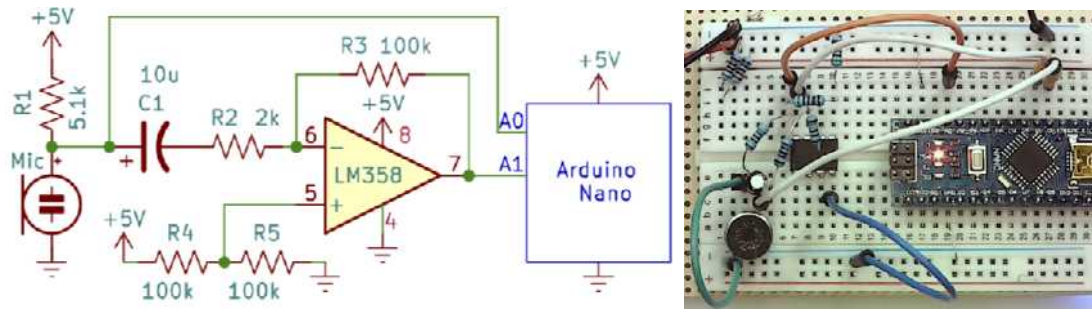
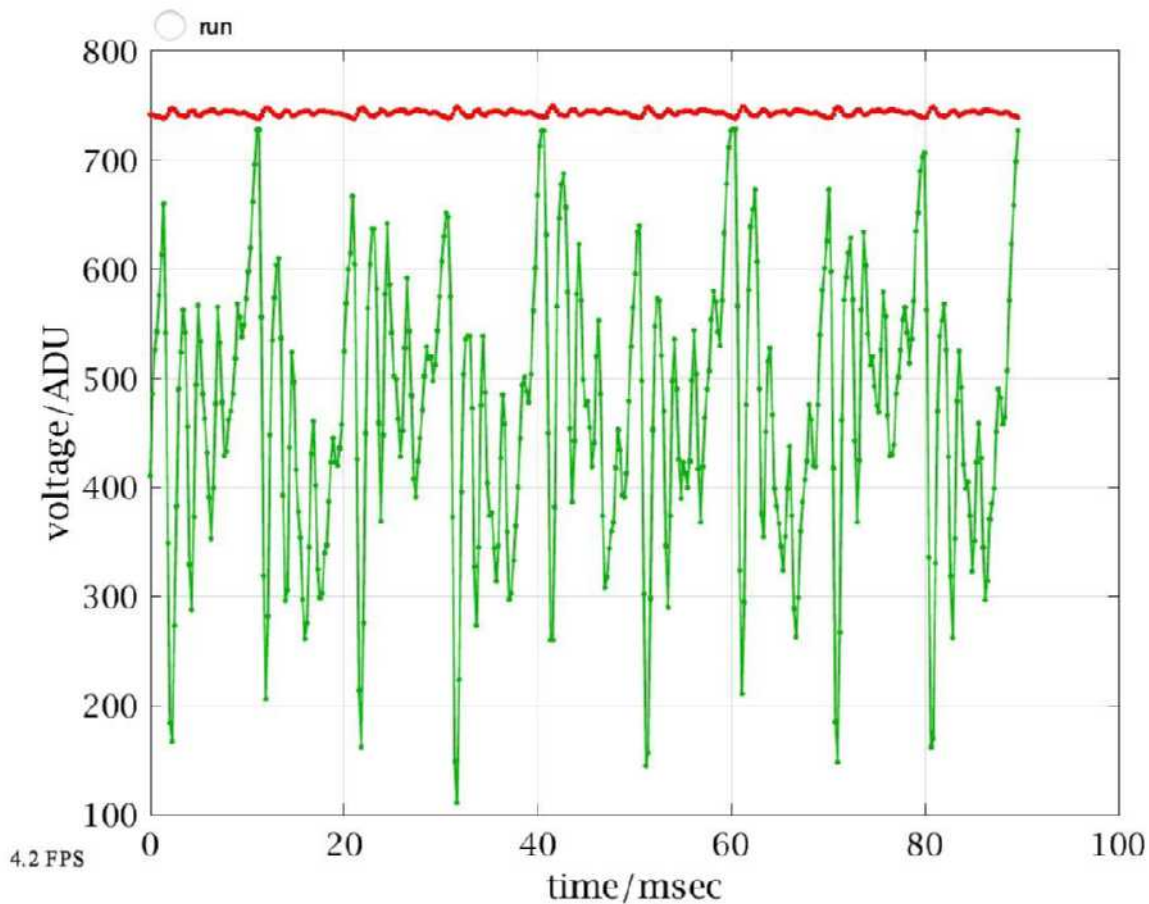
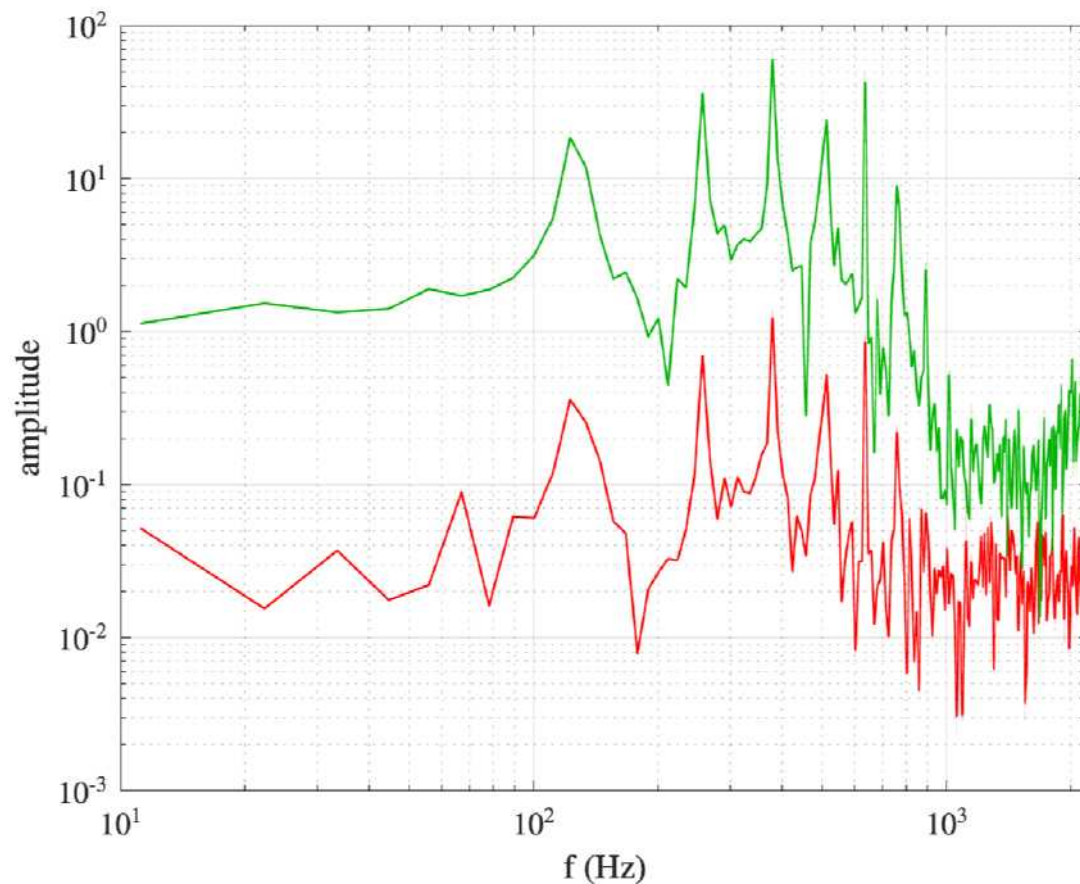

Figure 6. Schematic and photo of amplified microphone. See below for component values.
Figure 7. Typical trace from oscope2 with the circuit in Fig. 6.
Figure 9. Amplitude spectrum (in ADU) of Fig. 7, on log-log axes.
A 20 ADU p-p signal could be amplified by a gain of 50 to fill the dynamic range (DNR) of Arduino's ADC (0-1023). But we'd have to change the DC level to make this work,. If we amplified the signal with its DC value ~ 700 ADU by even 2 times it would saturate the ADC. Likewise, if we removed the DC entirely, then half the signal would be negative and would saturate (or damage) the ADC. Thus we need to *multiply just* the AC signal by 50 and *add* it to a DC offset (called "bias") = $V_{ref}/2$, making the signal symmetrical between 0 and V_{ref} volts = 0-1023 ADU. How to do that? With an op-amp circuit, as in Fig. 6.
An inverting amplifier's gain = - feedback resistance/input resistance = $-R3 / R2$ in Fig. 6. With our limited selection of R's, we can achieve gain = 50 = $100k\Omega / 2k\Omega$. We've already selected $R1 = 5.1k\Omega$. $R4$ and $R5$ are voltage dividers to set the bias voltage at $V_{cc}/2 \sim 2.5V$, so they just need to have equal value. No (significant) current flows into the op amp's + and - inputs, so a high value will reduce wasted power.
Common errors are incorrectly numbering the op amp pins, placing a device in an adjacent column of the breadboard, bad jumper wire, forgetting to ground the microphone, Nano, or op amp, or forget to connect top and bottom ground rows on the breadboard. What other mistakes challenged your debugging skills?? When working, the system should display something like Fig. 7 in response to your (loud) voice:
It's hard to see from Fig. 7 whether the green curve = -50 times the red one (ignoring DC). First, we can take the ratio of the two rms values as follows:
Modeling the subtle squiggles of complicated waveforms such as a voice through complex circuits like Fig. 6 is challenging. Again we could in principle integrate differential equations that follow the changing charges, currents, voltages, etc. Or solve the equations algebraically with complex impedances at each frequency using Fourier Analysis. MATLAB offers many functions and toolboxes for frequency domain analysis and most importantly, it "understands" complex algebra, so we don't have to worry about the mechanics. We'll spend the next couple of week learning to navigate this mathematical space, but for introduction, let's look at Fig. 7 data in the frequency domain – which means instead of plotting voltage vs. time, plot voltage vs. frequency, using the Fourier transform to extract from Fig. 7 each frequency component's amplitude. Fig. 9 show half of the frequency domain data – the amplitudes. The other half are phases, and in signals like this are seemingly random even though they contain key information about the signal. Decades ago I wrote a function I called **spectrum** to visualize digital time series in the frequency domain. It requires the sample rate which we'll compute first:
- Signal to noise ratio (SNR) can be estimated ideally by measuring the spectrum of noise without any signal and comparing it to Fig. 9. But we might guess from Fig. 9 a constant noise "floor" at the level of the right hand side extending back to the fundamental, which suggests the amplified (green) SNR at the peak amplitude (500Hz) $\sim 200/1$, vs. (red) $2/5e-2 = 40$. Thus the op-amp circuit improved the SNR by ~ 5 times, not 50 times because it's also amplifying the noise.